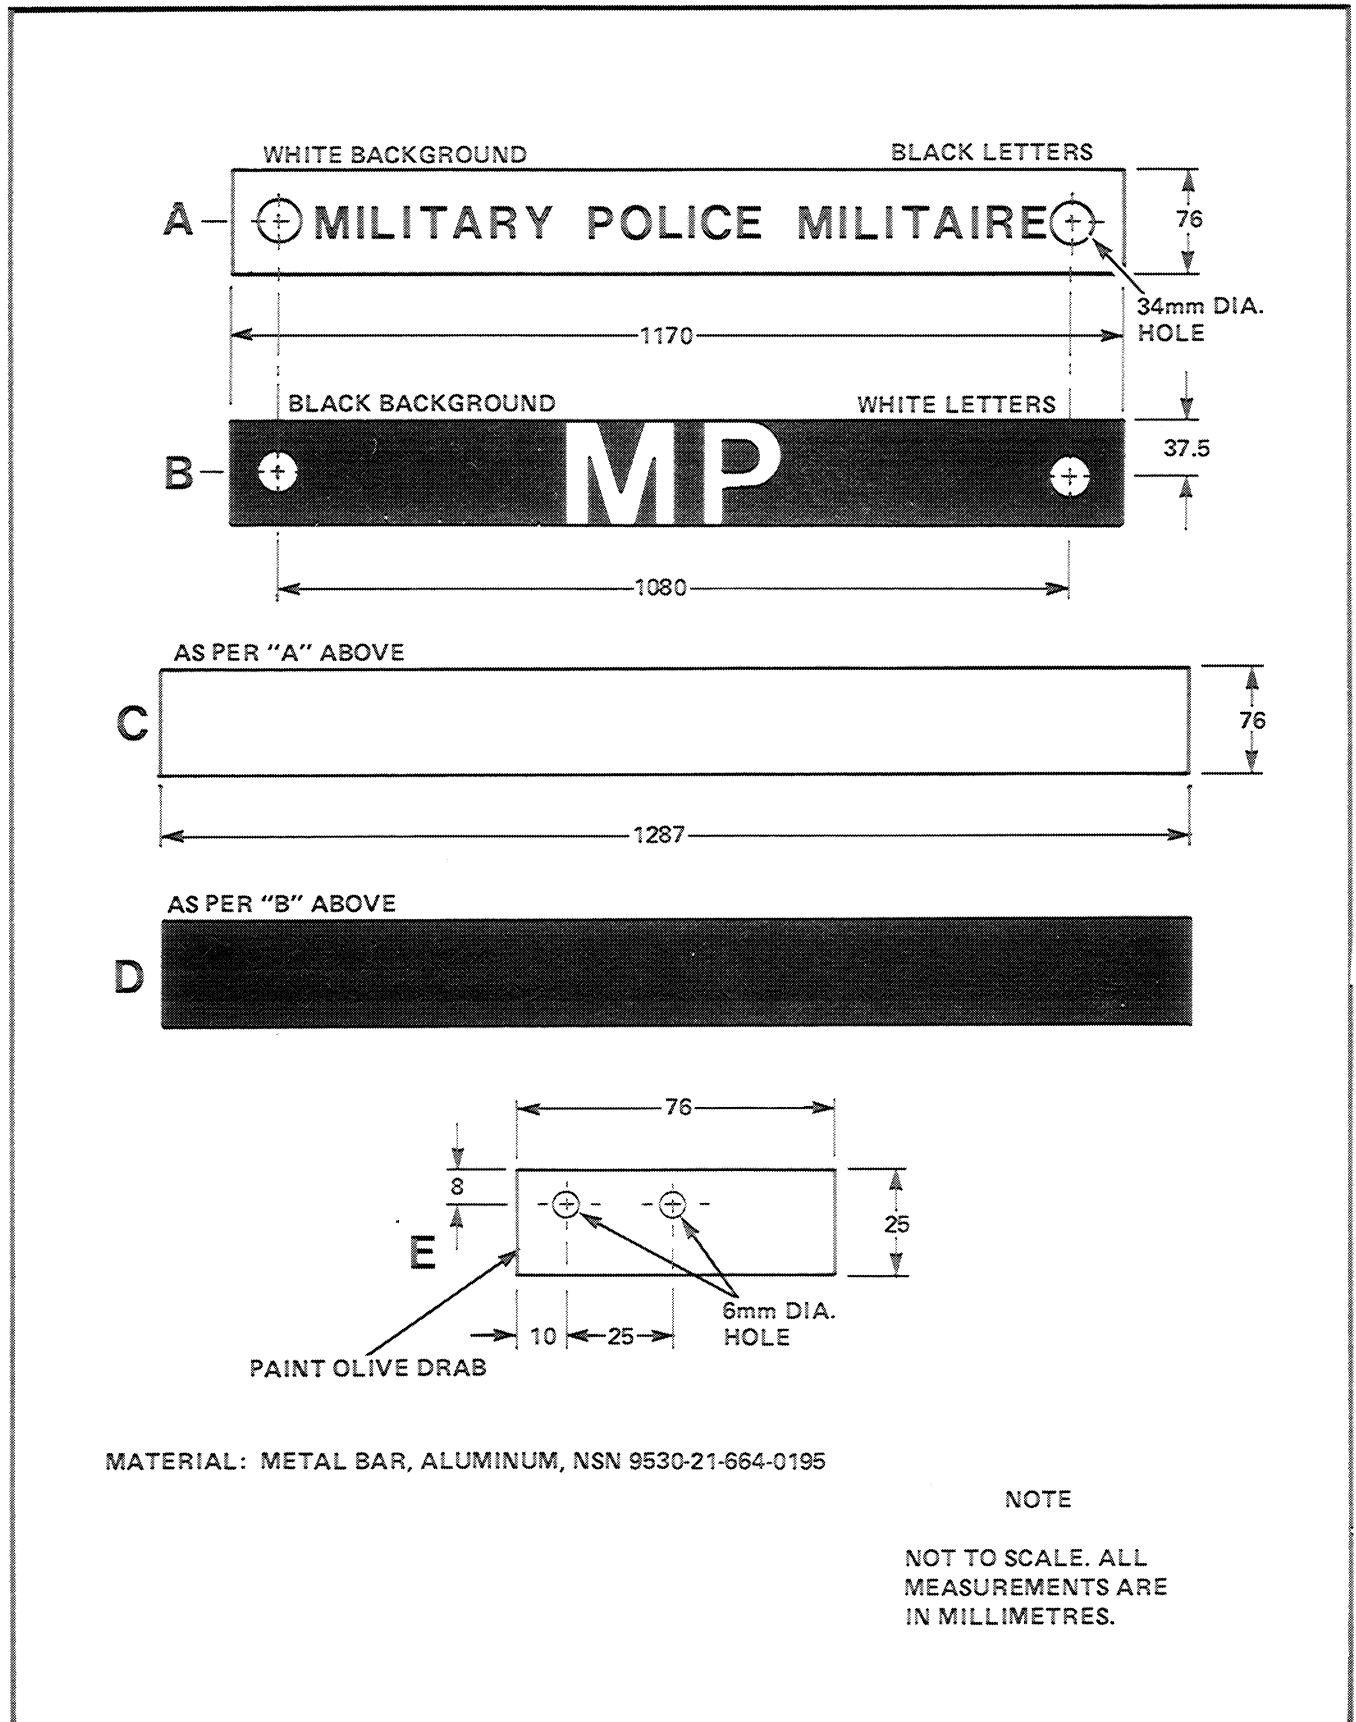

Figure 14 Fabrication of Military Police Signs
21. See Figure 14. The military police signs are made so they are reversible. The rear sign, views "A" and "B", is secured using the vehicle canvas cover straps on each side of the vehicle. When the canvas cover is removed, the sign is secured to the upper roll bar, immediately behind the front seats. The front sign, views "C" and "D", is secured under the vehicle windshield using two mounting brackets "E".
22. To fabricate the military police signs, see Figure 14 and proceed as follows:
- c. Prime and paint the two brackets (Item E, Figure 14) using primer 1-GP-132 and infrared olive drab paint 503-321.
- d. cut two pieces of insulating sleeve (29) and heat shrink onto the open end (opposite holes) of the bracket.